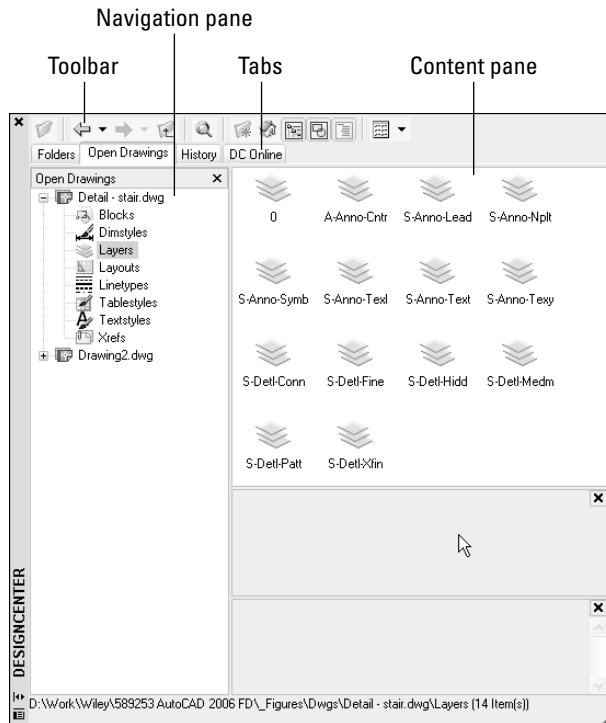

Figure 5-9:
The DesignCenter palette (shown in Figure 5-9) consists of a toolbar at the top, a set of tabs below that, a navigation pane on the left, and a content pane on the right. The navigation pane displays a tree view with drawing files and the symbol tables contained in each drawing. The content pane usually displays the contents of the drawing or symbol table.
5. **If DesignCenter doesn't display the symbol tables indented underneath the source drawing (the one you opened in Step 2), as shown in Figure 5-9, click the plus sign next to the drawing's name to display them.**